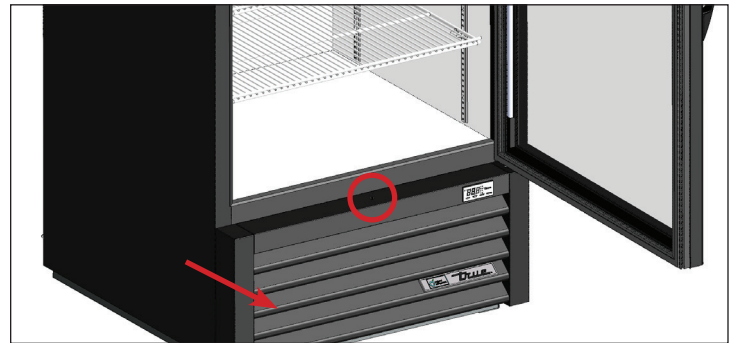

Fig. 1. Front louver grill screw location. Carefully remove the grill.
2. Remove the front louvered grill from the cabinet. See fig. 1.